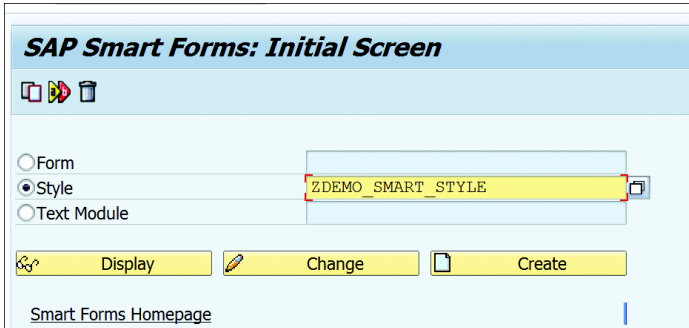

Figure 18.52 Form Builder Initial Screen
1. On the initial screen of Form Builder (Transaction SMARTFORMS), select the STYLE radio button and enter the name of the style, as shown in Figure 18.52. Click CREATE.